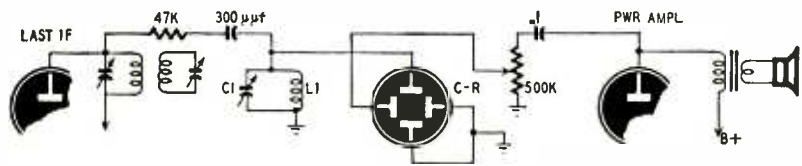

Fig. 1—Basic circuit for C-R tube hookup to check modulation at receiver.
*Magazine* (London). The basic circuit is shown in Fig. 1. The plates of a small C-R tube are connected between the plates of the last i.f. and power amplifiers to develop a conventional modulation trapezoid. Tuned circuit C1-L1 tunes to the receiver's i.f. and peaks the r.f. voltage to provide sufficient vertical deflec-